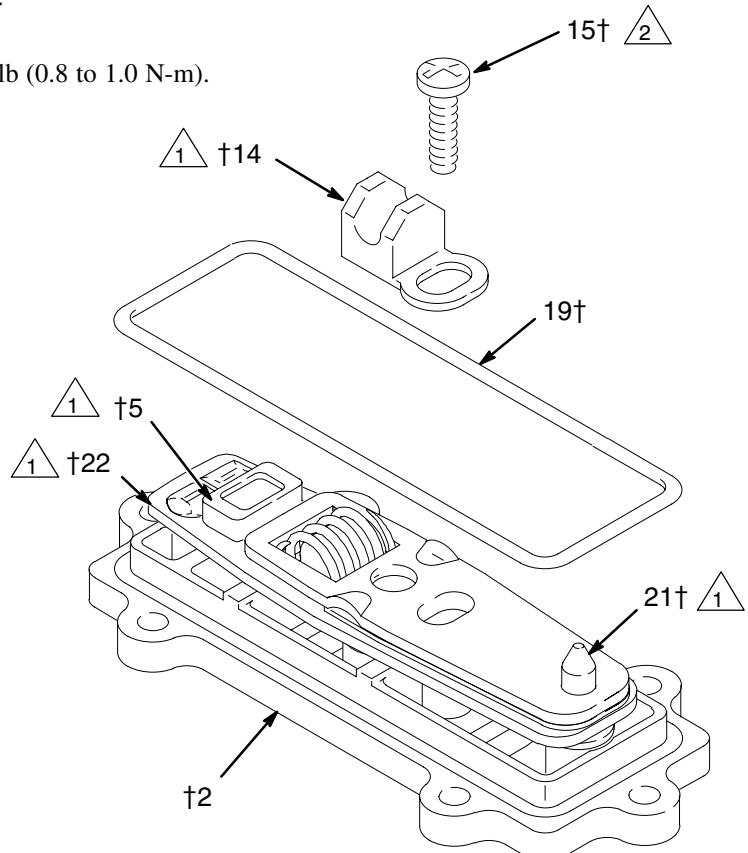

Fig. 14
- Grease the inside surfaces of the shift saddle (14) and install it as shown in Fig. 14. Hold the link assembly firmly in place and install the screw (15). Torque to 7 to 9 in-lb (0.8 to 1.0 N-m). Install the o-ring (19) on the cover (2).